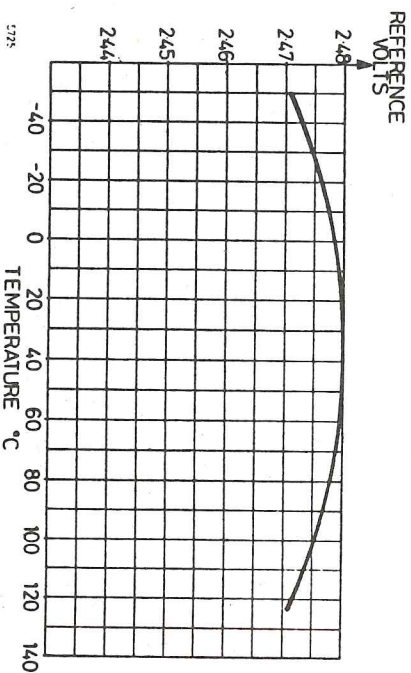

Fig. 5 - TYPICAL REFERENCE VOLTAGE v TEMPERATURE
- NOTE 5. For typical temperature performance see Fig. 5, page 7.